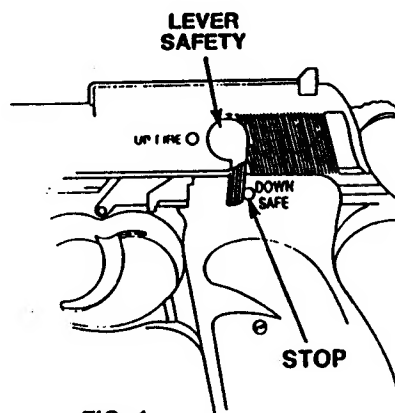

FIG. 1
- A. To put the pistol on safe, locate the lever safety above the left hand grip. Swing the lever all the way down to the stop. ("Down Safe" position). The safety is not on unless it is in this position. The pistol cannot be fired when on safe. (Fig. 1)